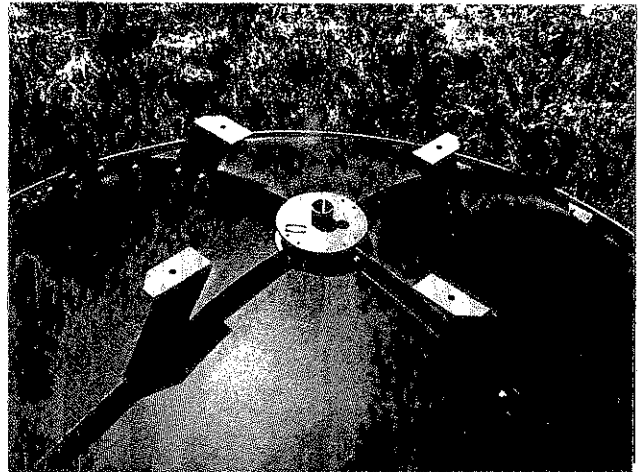

FIGURE 9
STEP 6. Repeat Steps 1 thru 5 for other two reflector segments. Join two halves of reflector together as described in Steps 2 thru 5. (Figure 9)